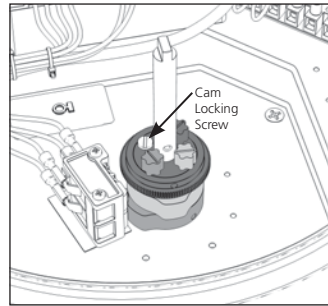

Figure 6. Two SPDT Travel Limit Switches
3. Loosen the cam locking screw shown in Figure 6.